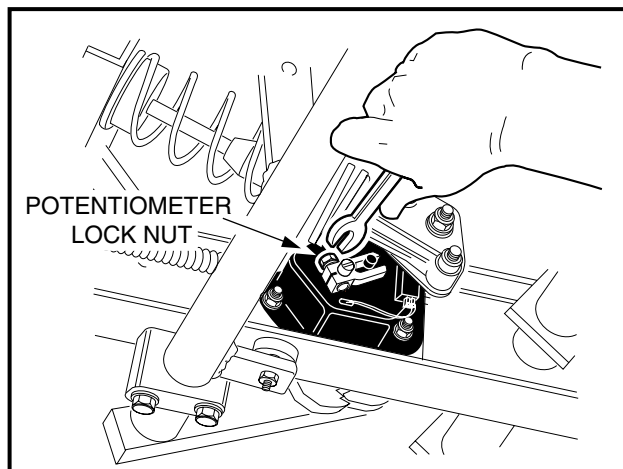
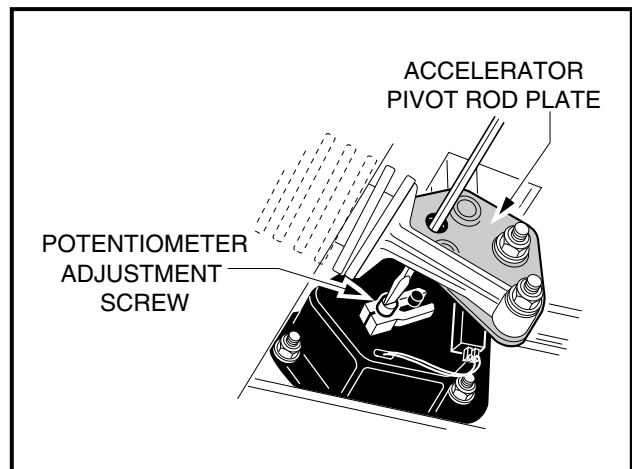

**Figure 5-25 Potentiometer Cover Removal**
**Figure 5-26 Loosen Bolt**
- 5.6. Remove two screws (20) and detach the potentiometer housing cover (**Figure 5-25, Page 5-26**). Slightly loosen the bolt (9) (**Figure 5-26, Page 5-26**) attaching the actuator lever to the adjustment bracket.
- 5.8. Tighten the actuator lever bolt (9) (**Figure 5-26, Page 5-26**) to 75 in-lb (8.5 N·m). This step sequence ensures the solenoid will not engage with the accelerator pedal in the fully upright position and with the park brake set. If the red LED is illuminated at this point, repeat step 5.7.